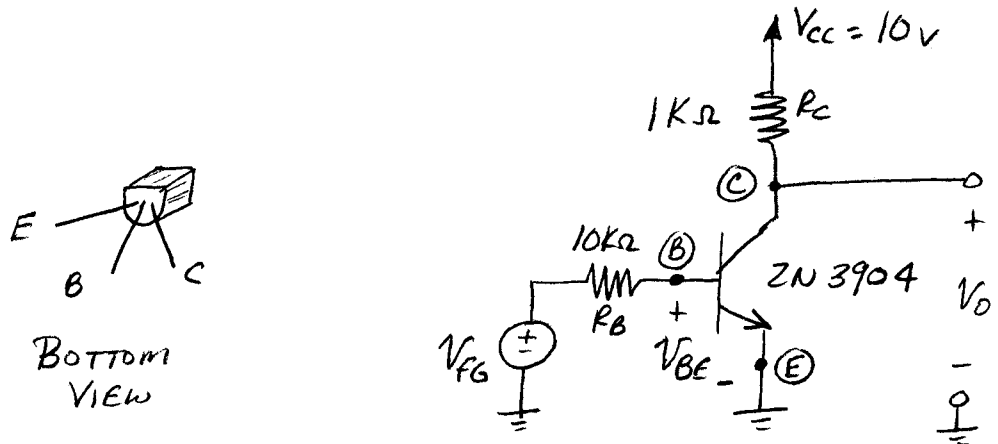

Figure 1. 2N3904 pinout and logic inverter.
3. Using the 2N3904 pinout of Fig. 1, construct the logic inverter also shown in Fig. 1 in about the center of the Proto-Board so that we can leave room for the next sections' circuits.